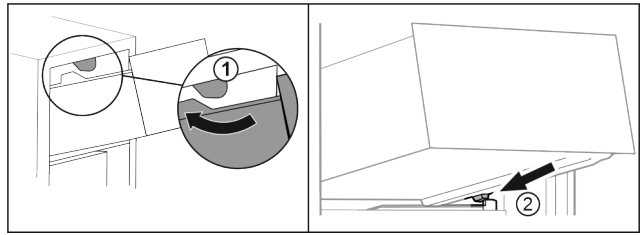

Fig. 93
- ▶ Guide drawer around the upper stoppers. Fig. 93 (1)
- ▶ Place drawer at an angle behind the lower stoppers onto moulded rib. Fig. 93 (2)